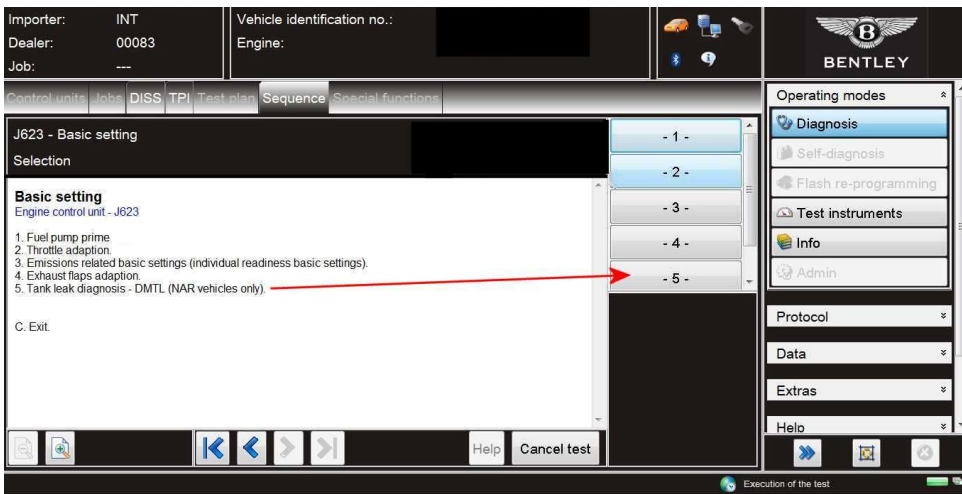

Figure 9
12. Referring to Figure 9 - Select -5- Tank leak diagnosis – DMTL (NAR vehicles only)